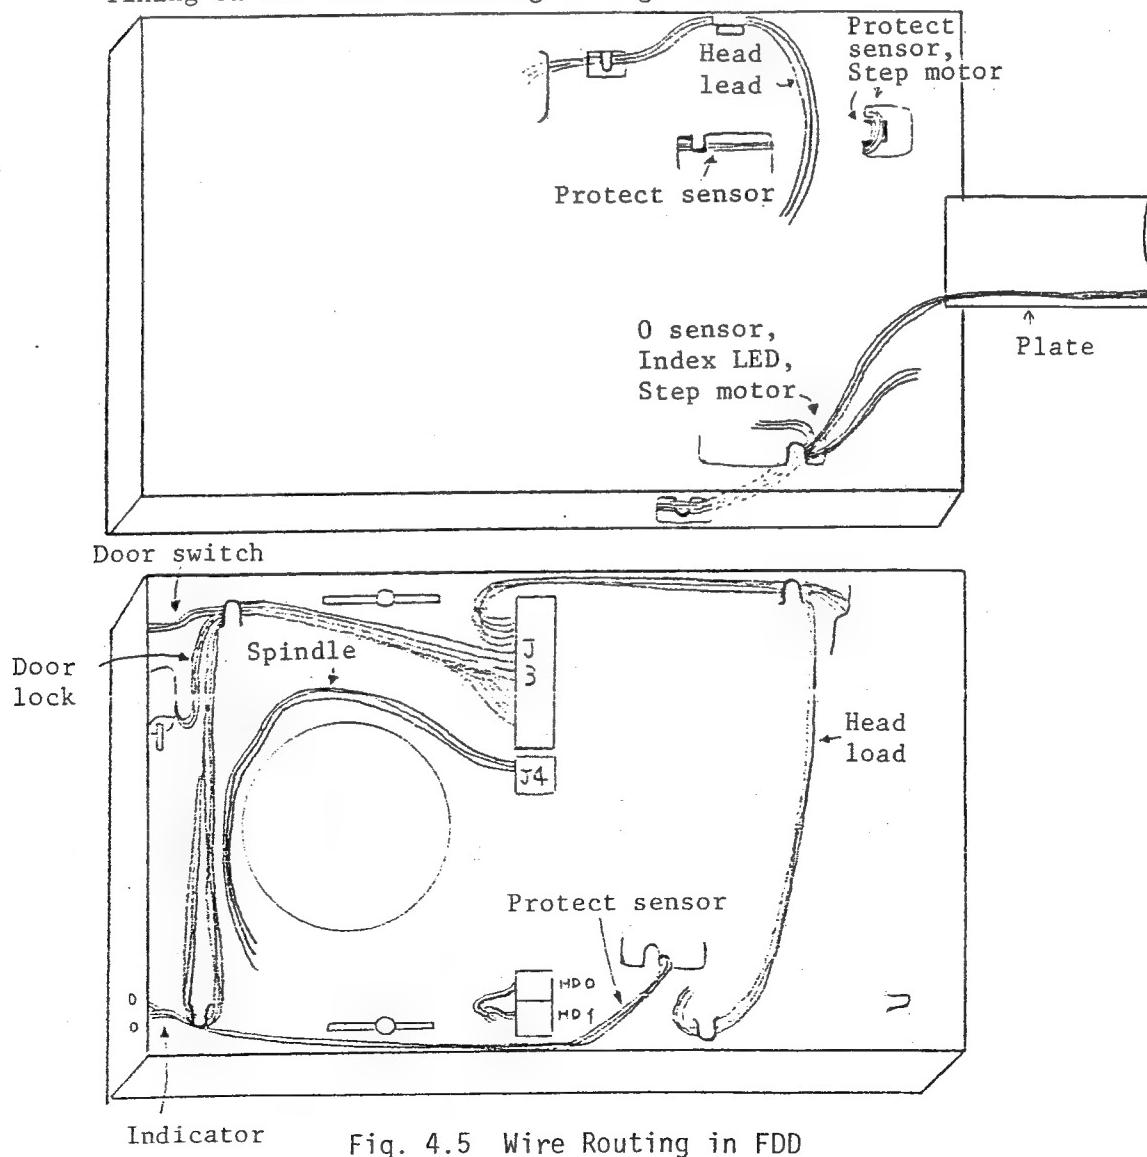
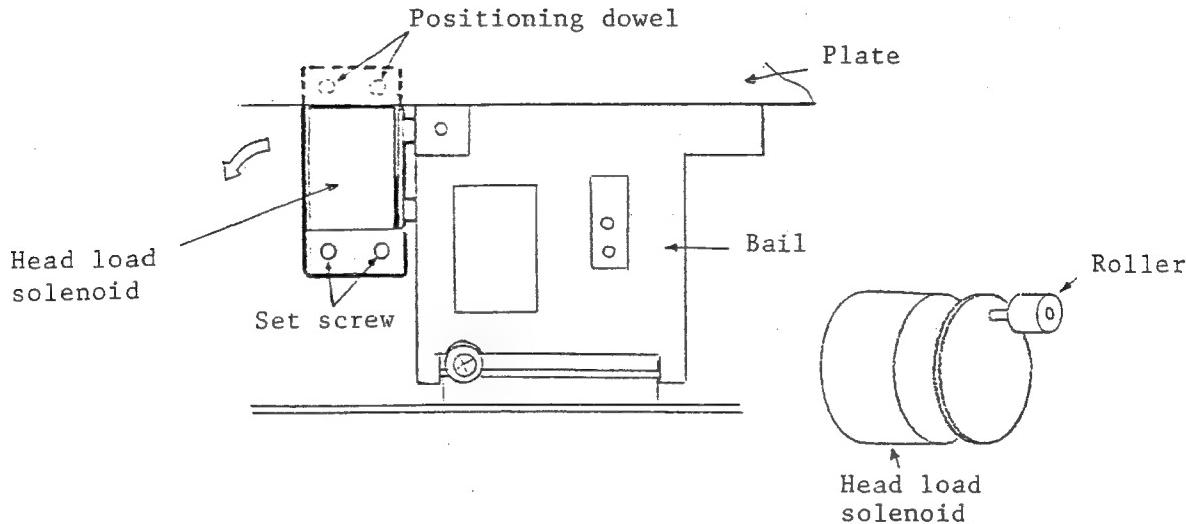

Fig. 4.5 Wire Routing in FDD
Fig. 4.8 Head Load Solenoid
After replacement, perform wiring with each clammer used for fixing on the base according to Fig. 4.5.
- Remove head load solenoid set screws ($M4 \times 2$). While holding the bail steady by hand, pull out the solenoid in the arrowed direction (Fig. 4.8). Use care to keep the roller in place.
(3) Assembling
- (c) Install wiring according to 4.2.3 (wire routing shown in Fig. 4.5).
- (b) Install wiring according to 4.2.3 (wire routing shown in Fig. 4.5).
(4) Adjustment
- (2) Disassembling
- (3) Assembling
- (c) Install wiring according to 4.2.3 (wire routing shown in Fig. 4.5.)